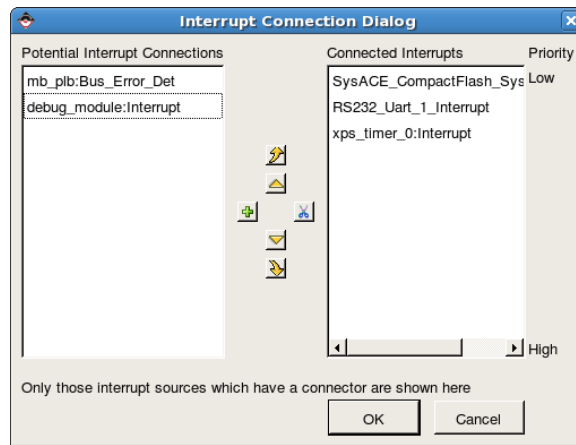

Figure 7: Connect Timer Interrupt
- (j) Next, click on the 'Ports' tab and expand the 'xps_intc_0' module. This is the interrupt controller discussed previously. We must connect the timer, uart, and sysAce interrupt signals to the 'Intr' port in order to enable our peripheral interrupts. Double click on the 'Net' field for the 'Intr' port of the interrupt controller module. This will bring up the window depicted in Figure 7. Add the 'xps_timer_0_Interrupt', the 'SysACE_CompactFlash_SysACE_IRQ', and the 'RS232_Uart.1_Interrupt' signals to the list of connected interrupts and hit 'OK'.